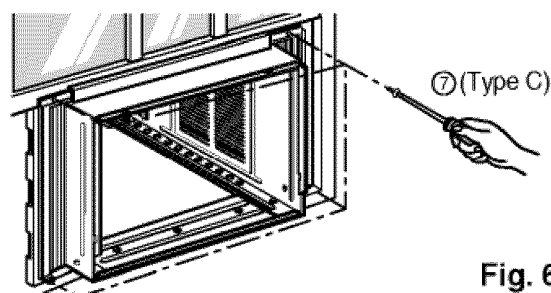

Fig. 6
- 6 Attach each Frame curtain the window sash by using screws (Type C.) (See Fig. 6)